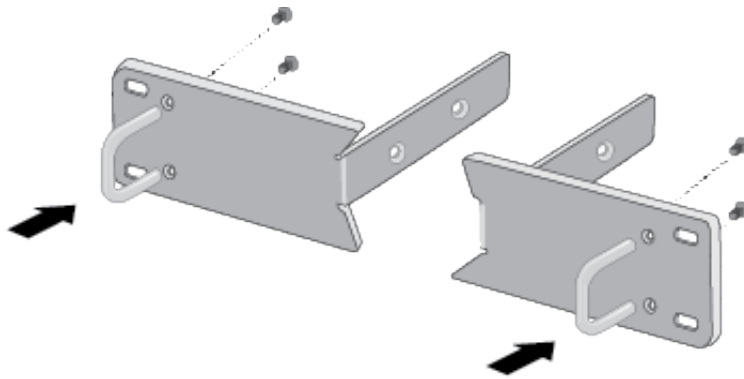

Figure 33. Attaching Handles to Brackets
3. Attach the handle to bracket with M3x6mm screws using a Phillip-head screw driver as shown in Figure 33.